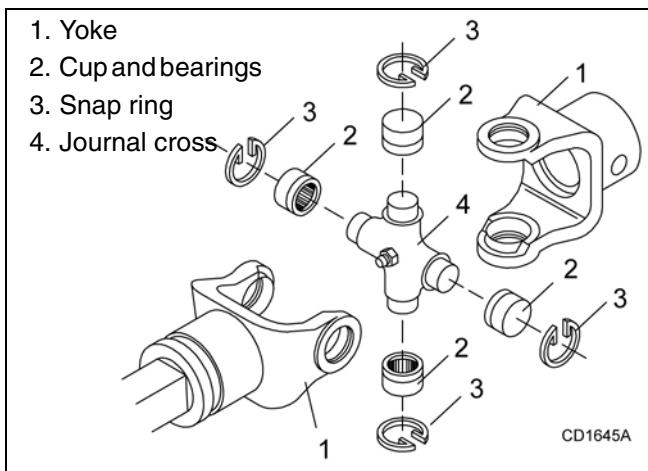

Figure 16. U-Joint Exploded View
1. Remove external snap rings from yokes in four locations as shown in Figure 16.